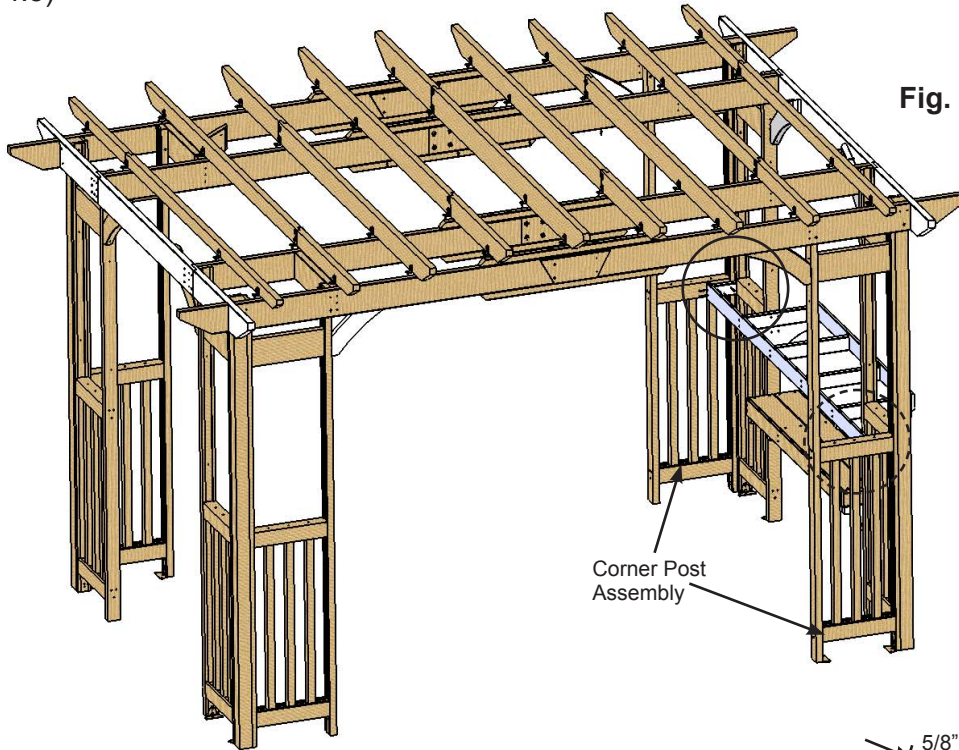

Fig. 14.4
E: Flush to the bottom of both (579) Rail T/B on one Corner Post Assembly and 5/8" down from the top of (510) Bar Back attach one (509) End Joist to (579) Rail T/B with three #8 x 2-1/2" Wood Screws. Repeat for the other end of (510) Bar Back. (fig. 14.4 and 14.5)
F: Attach (510) Bar Back to both (509) End Joists with two #8 x 1-1/2" Wood Screws per side. (fig. 14.4 and 14.5)